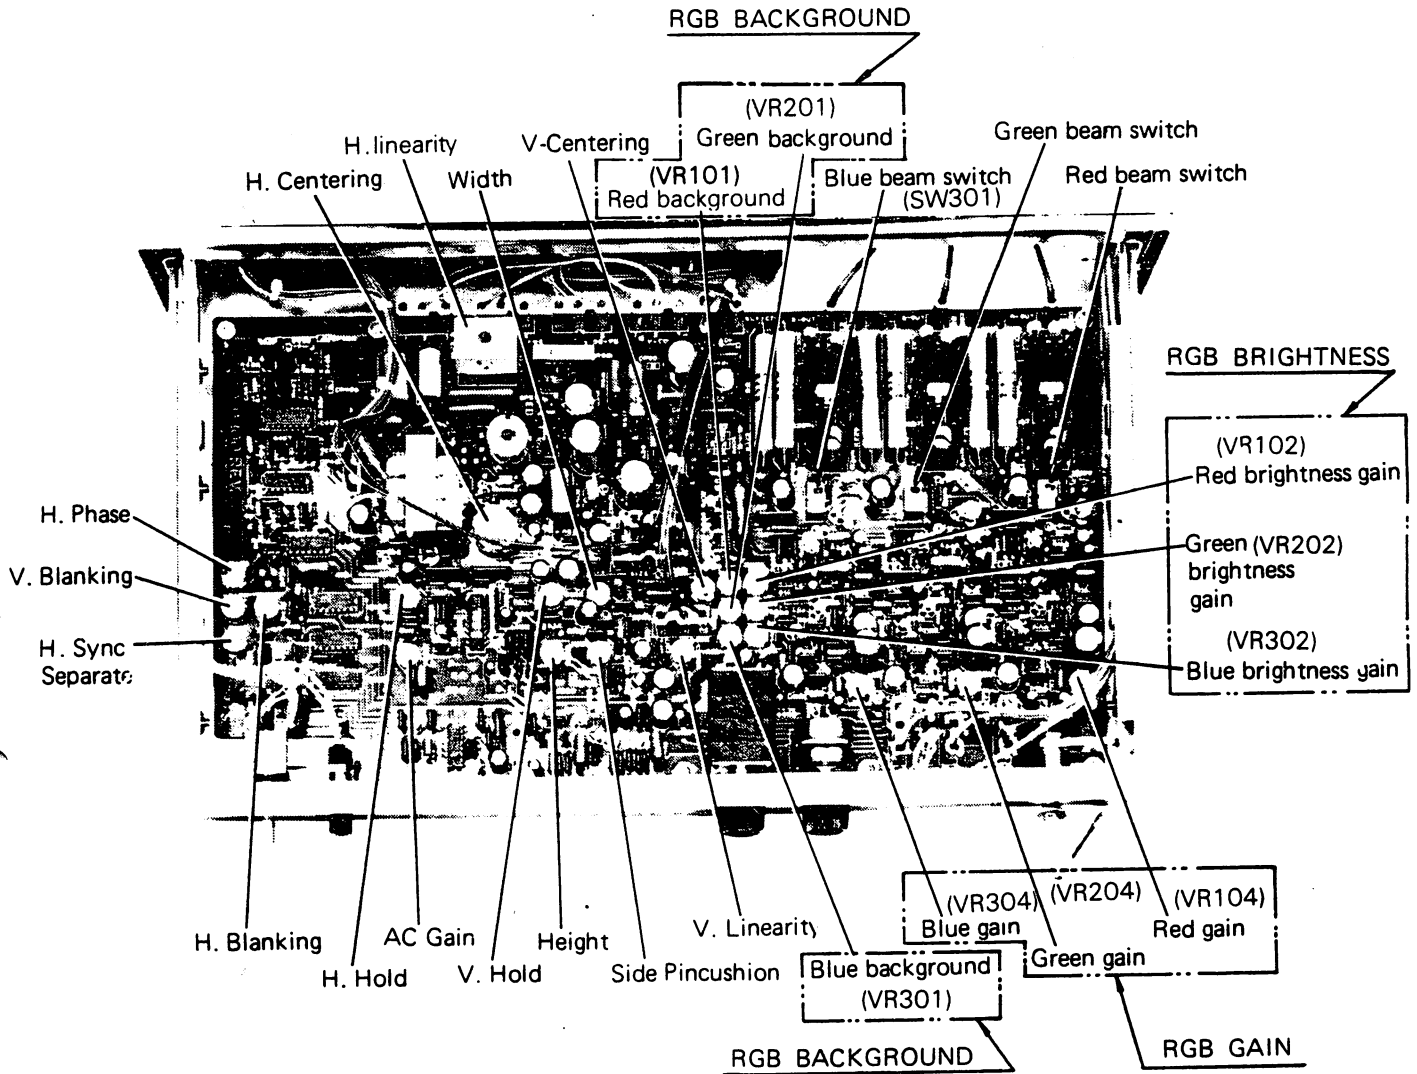

Figure 5-1 Control Drawer
5.2 DRAWER UNIT (PC BOARD) (Figure 5-1)